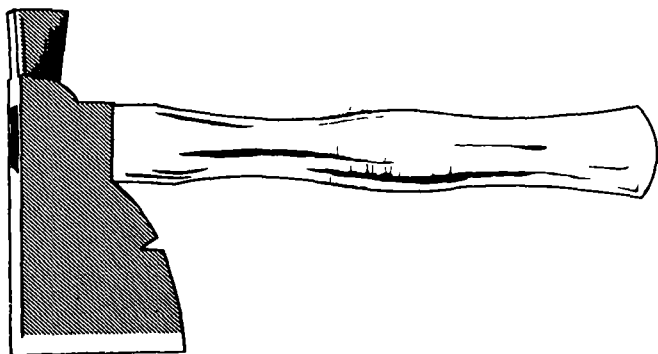

Figure 34. *Half-hatchet.*
b. Half-hatchet. The half-hatchet (fig. 34) is a combination chopping and driving tool. It has a wooden handle and a steel head. The head has a hammer face, an eye, and a blade. The blade has a notch for pulling nails less than 8d in size. The hatchet is most effectively used when chopping with the grain of the wood.